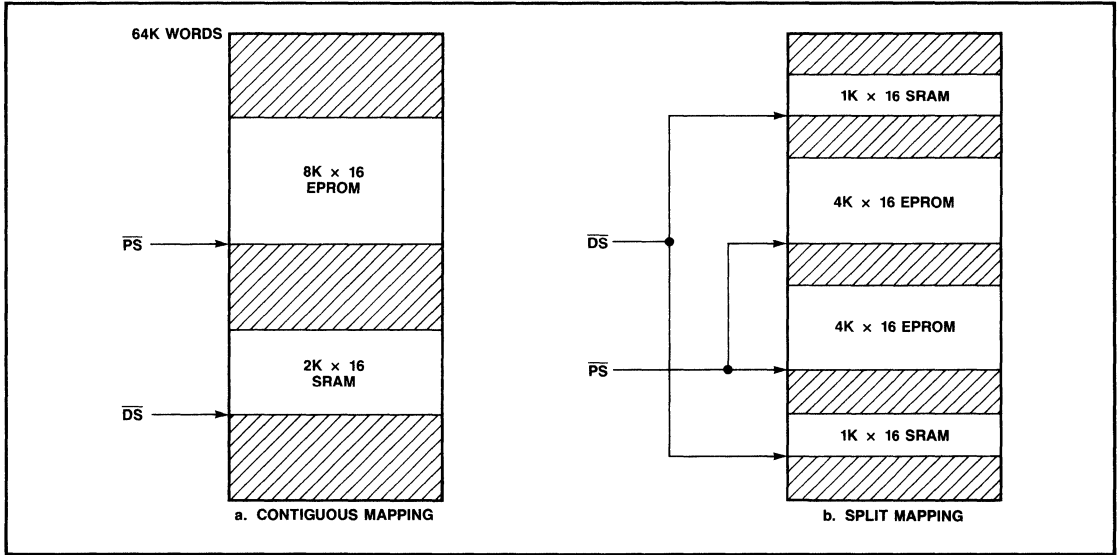
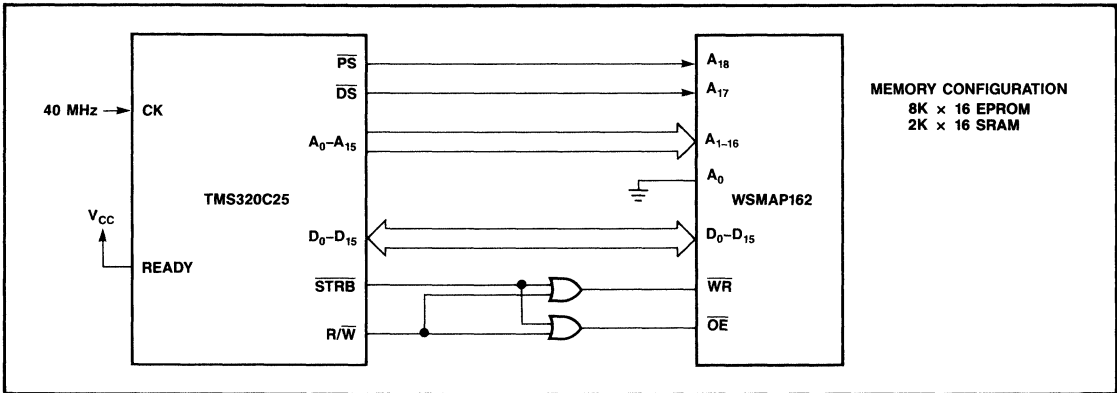

Figure 8. Examples of Mapping Memory Using the WSMAP162
Figure 9. Interfacing the WSMAP162 to a TMS320C25 in a DSP Application (x16 Configuration)
The WSMAP162 is especially suited for high-speed word-oriented (no byte operations) microprocessors. The TMS320C20/25 DSP family is an example of such a microprocessor. Figures 9 and 10 show two options of interfacing the WSMAP162 to a TMS320C25 operating at 40 MHz with no wait states. The TMS320C25 has two pins for selecting Program Memory (PS) and Data Memory (DS). These functions are connected to the higher order address of the WSMAP162. PS is connected to A₁₈ and DS is connected to A₁₇. Usually PS will select the EPROM and DS will select the SRAM. See Figure 8.
When in a wordwide (x16) configuration, the total memory available on the WSMAP162 is 8K x 16 of EPROM and 2K x 16 of SRAM. See Figure 9. This implementation replaces a minimum of: